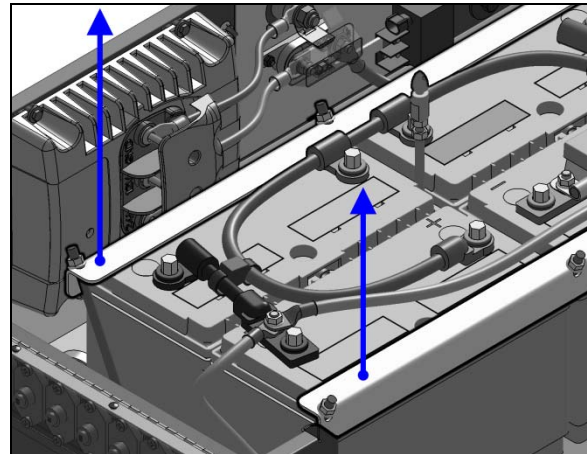

FIGURE 18: BATTERY FIXING CLAMPS REMOVAL
3. Unscrew tie-down nuts (6x) and remove clamps (2x). (Figure 18)